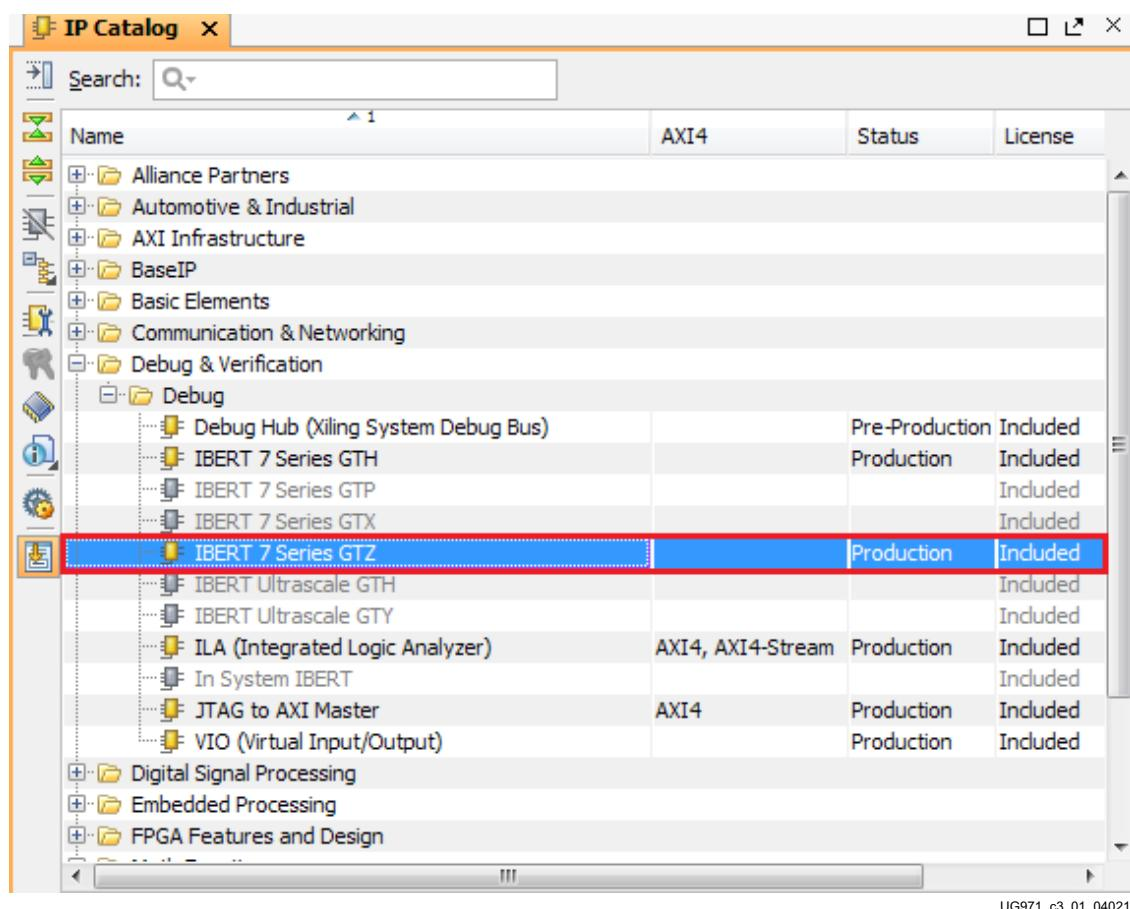

Figure 3-1: IP Catalog
1. In the IP Catalog window expand the **Debug & Verification** folder, then expand the **Debug** folder. Double-click or right-click the **IBERT 7 Series GTZ** to run the GTZ configuration wizard (Figure 3-1).